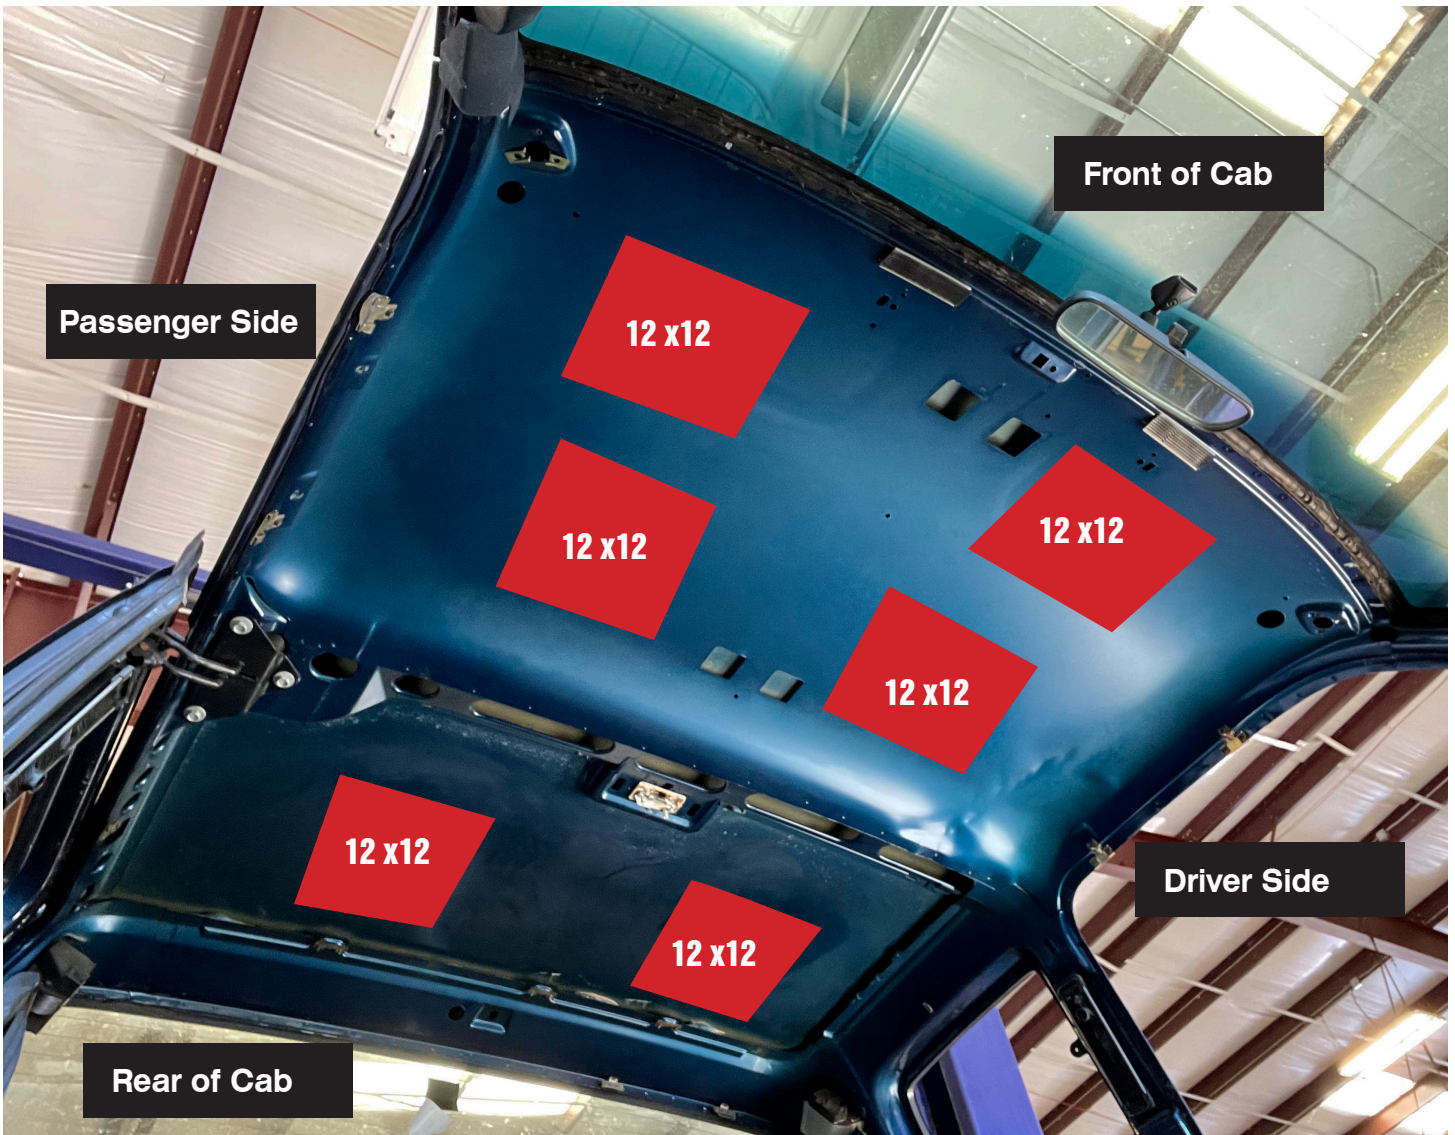

FIG. 2
STEP 1. Using Figure 2 as a guide, layout the pieces of Boom Mat Damping Material in those locations.